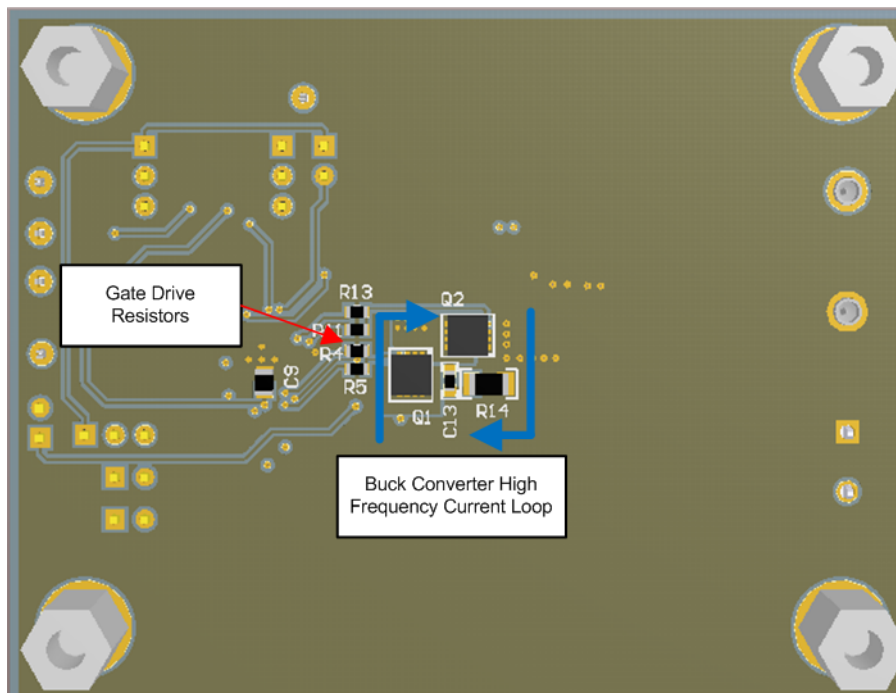

Figure 39. EVM Bottom Layer, High-Frequency Current Loop
- Figure 39 shows the high-frequency loops of the synchronous buck converter. The high frequency current flows through Q1 and Q2, through the power ground plane and back to  $V_{IN}$  through the ceramic capacitors C6, C7, and C8. This loop must be as small as possible to minimize EMI. Refer to Figure 41 and Figure 42 for the recommended PCB layout.